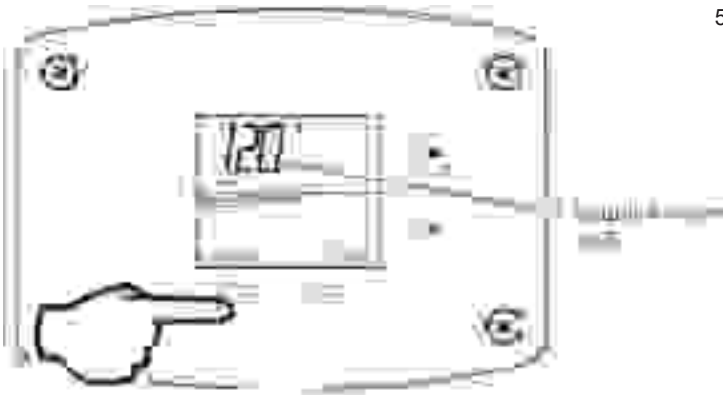

Fig. 32
5. Pressing 'SELECT' button will return display to setpoint in format selected (°F or °C) immediately (Fig. 32).